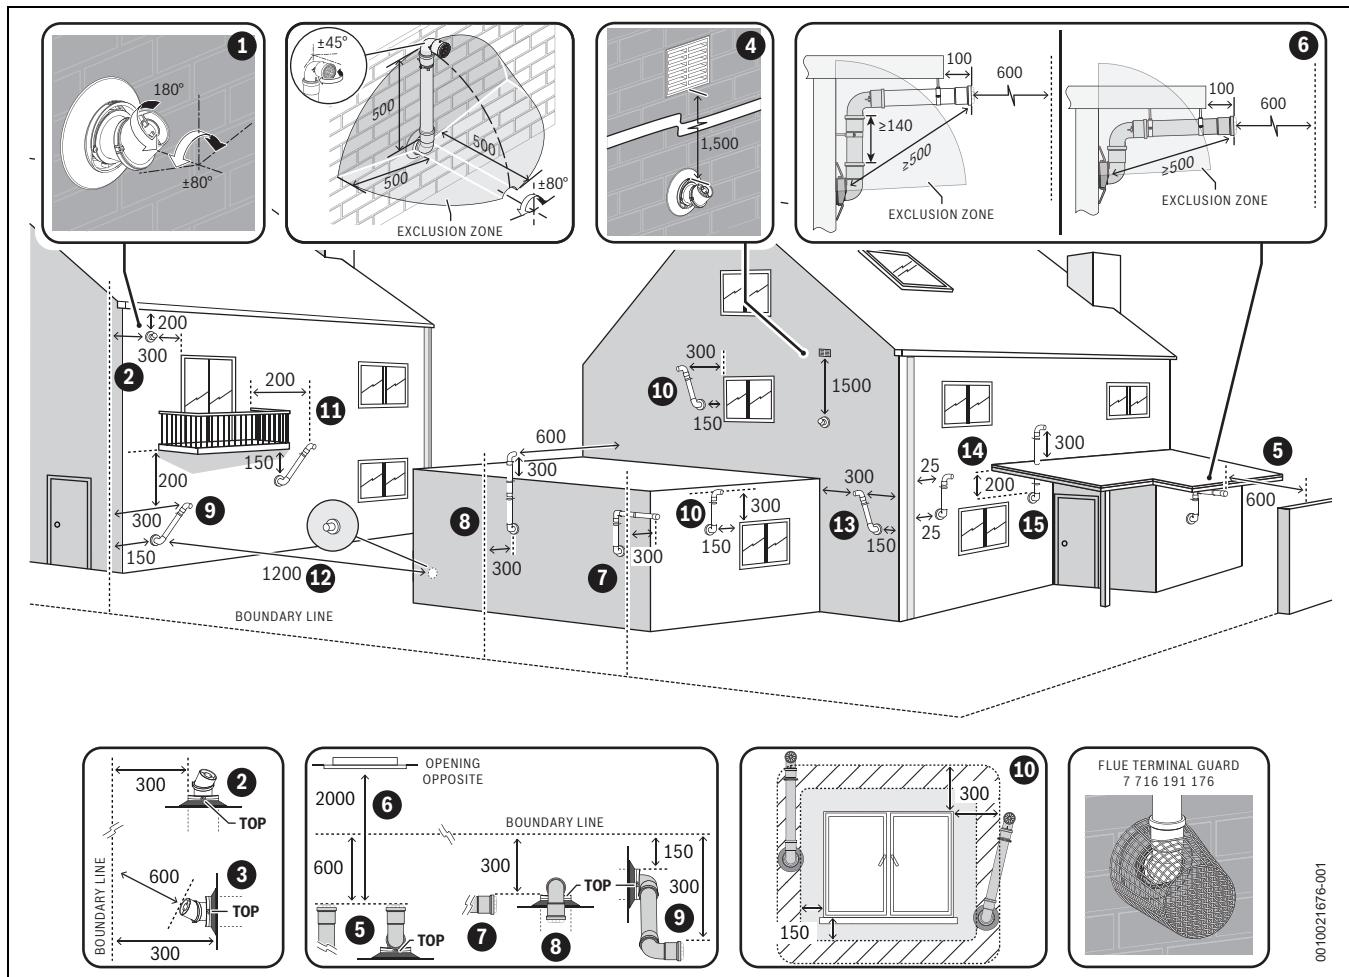

Fig. 31 Plume re-direct and plume management terminal positions
- Refer to "Horizontal flue terminal positions" for all concentric flue terminal positions unless the flue position is specified in figure 31 "Plume re-direct and plume management terminal positions".
Key to figure 31**- Plume re-direct terminal positions:**